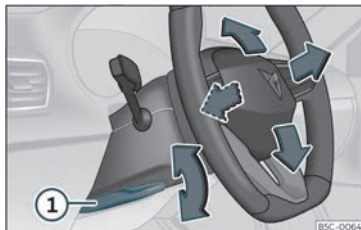

Fig. 4 Lever in the lower left side of the steering column.
- Pull the >>> Fig. 4 ① lever down, move the steering wheel to the desired position and lift the lever back up until it locks.
- After adjusting the steering column, push the lever >>> Fig. 4 ① firmly upwards to ensure the steering wheel does not accidentally change position while driving.